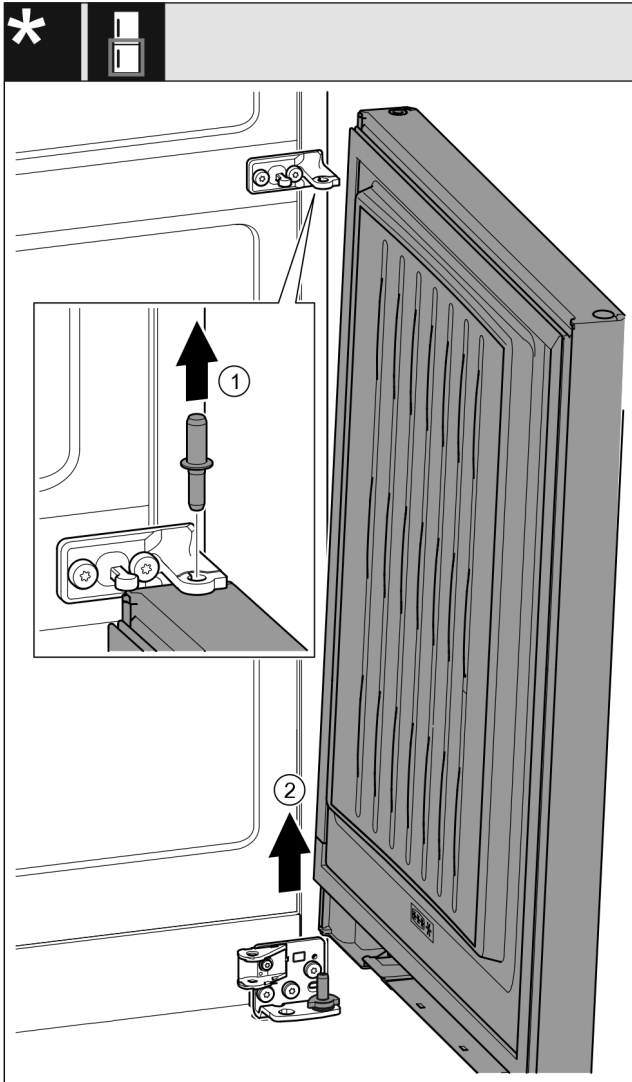

Fig. 30 With closing damper*
- ▶ Pull out the bolt Fig. 30 (1) upwards.*
- ▶ Swing out the door Fig. 30 (2), pull it upwards and set it aside.*